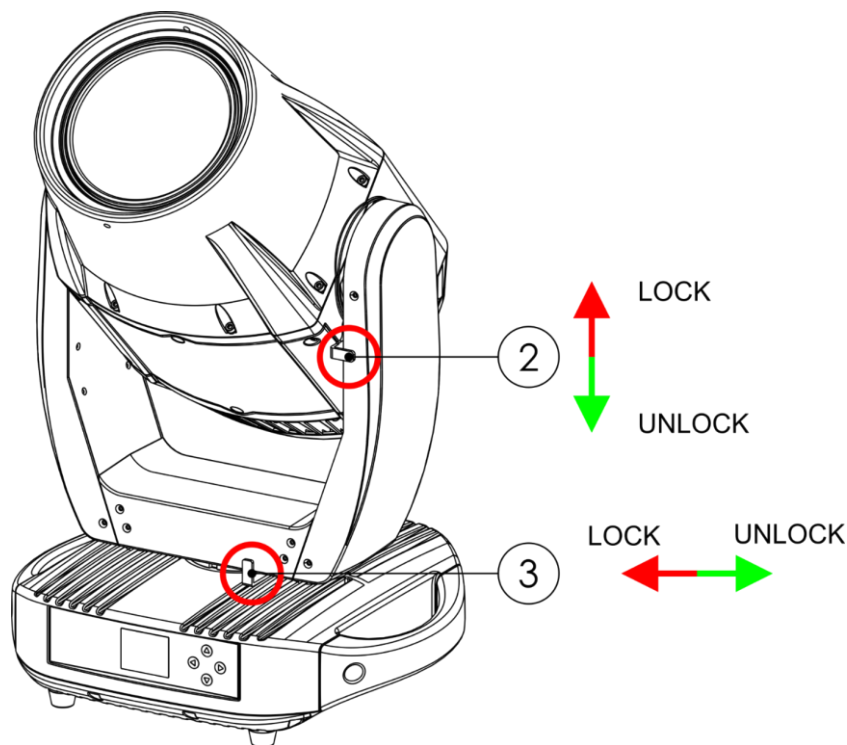

Fig. 06
- Slide the **tilt lock pin (02)** upwards to disable and downwards to enable the vertical movement (**Tilt**) of the fixture (see Fig. 06).
- Slide the **pan lock pin (03)** to the left to disable and to the right to enable the horizontal movement (**Pan**) of the fixture (see Fig. 06).